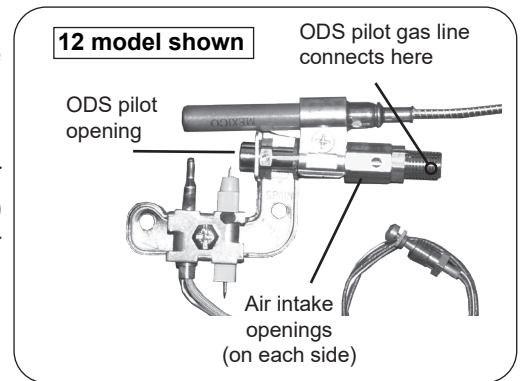

Fig. 25-1
1. Turn the burner system to the **OFF** position and allow it to cool. Inspect the ODS pilot area (see Fig. 25-1) for any visual contamination or debris (usually lint, hair, spider webs, or small insects). Lightly brush off all external surfaces while vacuuming loosened debris from the ODS pilot opening. **Be careful not to brush any foreign material into the ODS pilot opening.**
2. Clean out the air intake openings (see Fig. 25-1) by lightly brushing around the openings while vacuuming.
4. If the ODS pilot flame does not burn as indicated in the instructions, extinguish the ODS pilot by turning the valve to the full **OFF** position. Using a compressed air duster, insert the flexible nozzle through the air intake openings, ensuring that the nozzle is pointed toward the ODS pilot opening (see Fig. 25-1). Blow air through the intake openings to clear out any debris that may be in the system.
5. Relight the ODS pilot and inspect it to be sure it is burning as shown in the instructions. If not, extinguish the ODS pilot and **turn off the gas supply to the burner system.** Using an adjustable or a 1/4" wrench, disconnect the ODS pilot gas line (see Fig. 25-1) from the valve.